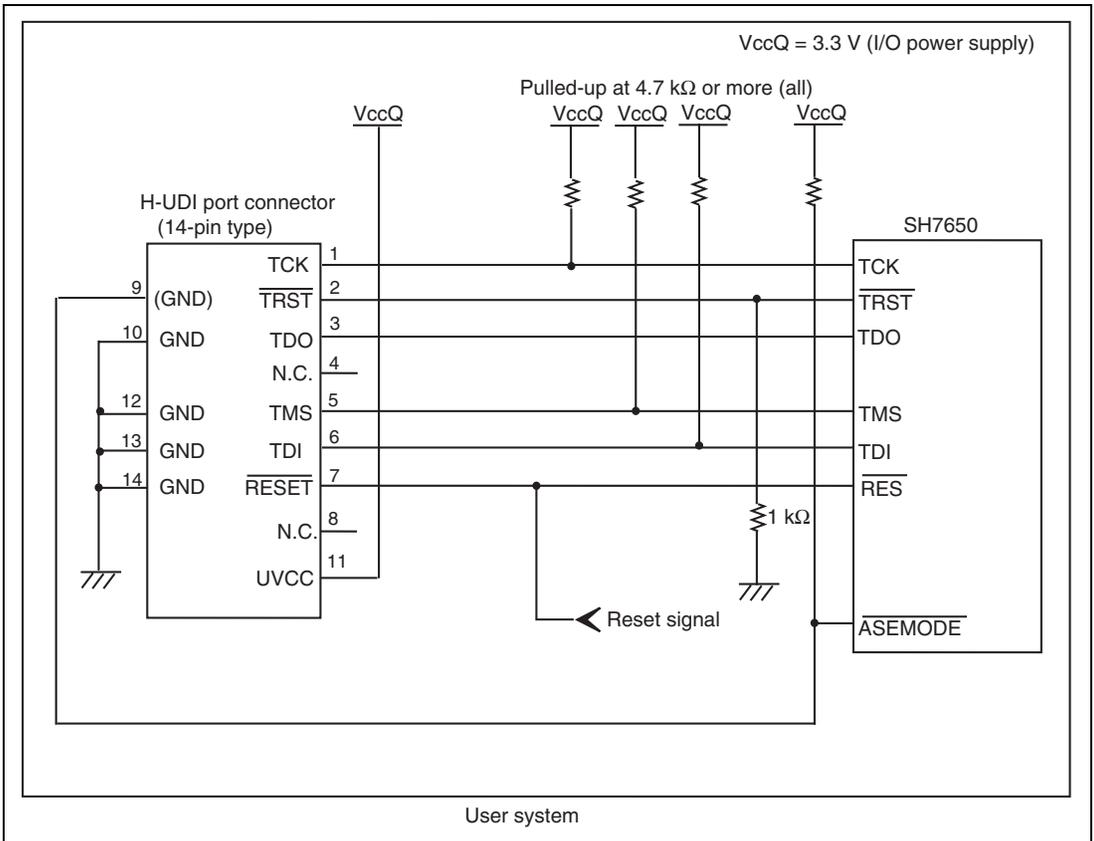

Figure 1.2 Recommended Circuit for Connection between the H-UDI Port Connector and MPU when the Emulator is in Use
Figure 1.2 shows a recommended circuit for connection between the H-UDI port connector (14 pins) and the MPU when the emulator is in use.
- (1) When the emulator is used: /ASEMODE = 0
- (2) When the emulator is not used: /ASEMODE = 1Figure 1.2 shows an example of a circuit that allows the /ASEMODE pin to be GND (0) whenever the emulator is connected by using the user system interface cable. When the /ASEMODE pin is changed by switches, etc., ground pin 9. Do not connect this pin to the /ASEMODE pin.
5. When the power supply of the user system is turned off, supplying VccQ of the user system to the UVCC pin reduces the leakage current from the emulator to the user system. A level shifter that is activated by the internal power supply or user power supply (changed by the switch) is installed in the interface circuit of the emulator. If the user power is supplied to the UVCC pin, the level shifter is not activated as long as no user power is supplied. When the power supply of the user system is turned off, no current flows from the user interface. The I/O voltage level of the user system interface can be the same as that of the VccQ. To operate the emulator with low voltage (lower than 3.3 V), the VccQ must be supplied to the UVCC pin. Make the emulator's switch settings so that the VccQ will be supplied (SW2 = 1 and SW3 = 1) (as shown in figure 1.2).
6. The resistance value shown in figure 1.2 is for reference.
When the circuit is connected as shown in figure 1.2, the switches of the emulator are set as SW2 = 1 and SW3 = 1. For details, refer to section 3.8, Setting the DIP Switches, in the SuperH™ Family E10A-USB Emulator User's Manual.